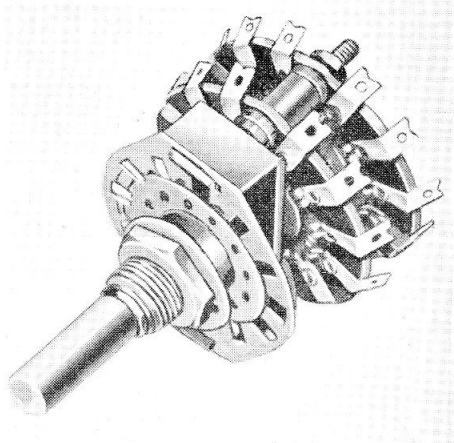

Fig. 1. Typical N.S.F. oak switch
2. A general view of a typical switch is shown in fig. 1. These switches are available in any number of sections with provision for 12 positions per section.